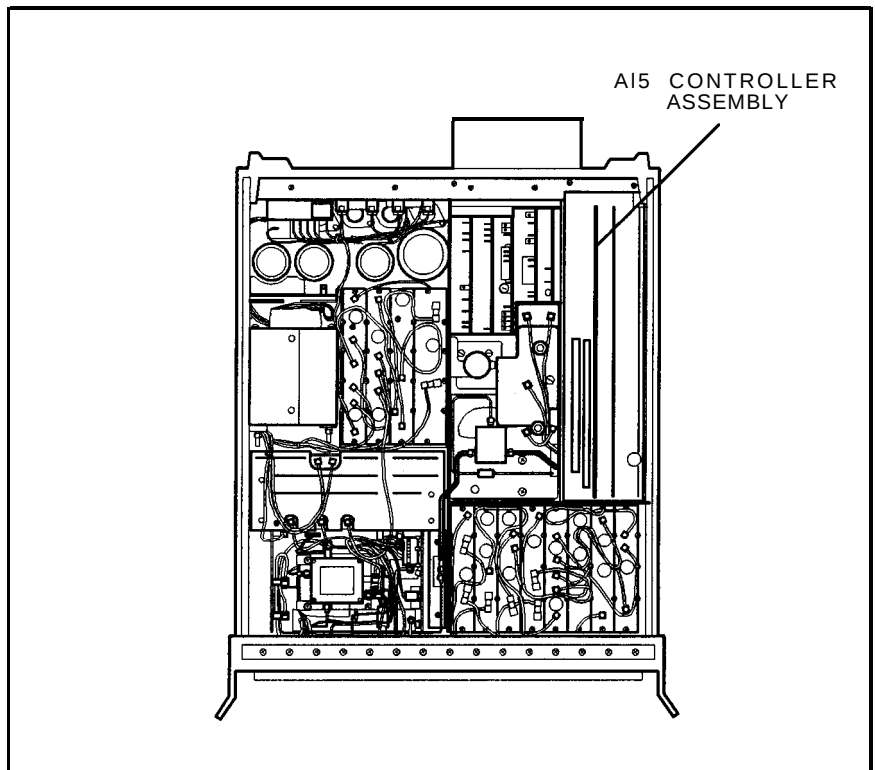

Figure 1-7. Location of AI5 Controller Assembly
5. Remove the cover from the A15 controller assembly. See Figure 1-7.